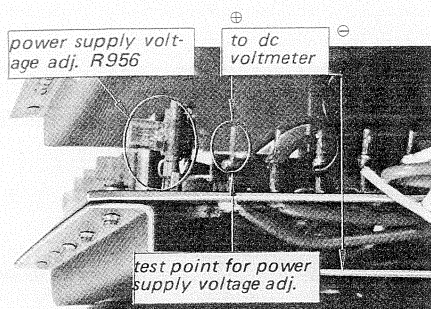

Fig. 3-1 Dc voltmeter connection and parts location
Connect the dc voltmeter to the test point as shown in Fig. 3-1.
3. Adjust semifixed resistor R956 (see Fig. 3-1) to obtain a 40V reading on the meter.